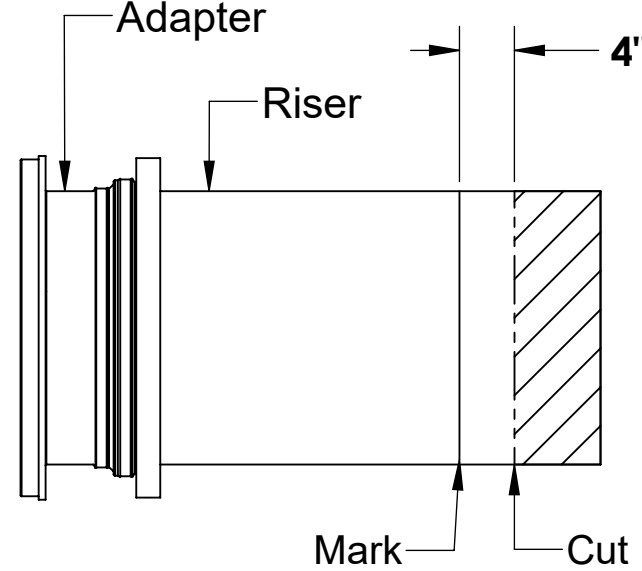

Figure 2
6. Whether the riser needs to be cut or not, make another mark with the silver marker on the sidewall of the riser a distance of 4 INCHES above the edge just cut. If you did not make a cut (meaning your riser height + dimension from step 5 line was beyond the bottom edge of your riser), still mark the sidewall of the riser 4 INCHES above where your riser height + dimension from step 5 line would have been. DO NOT cut this new line. Once the riser is installed into the main unit, this new line will end up at the top of the gasket and will aid in re-assembly. See Figure 2.